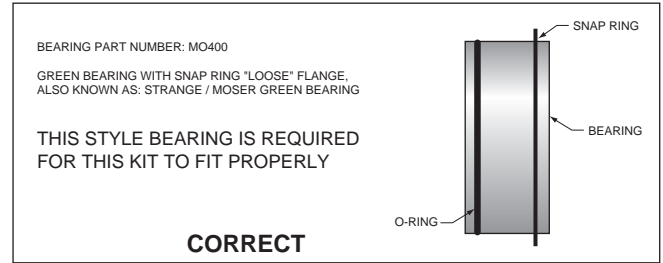
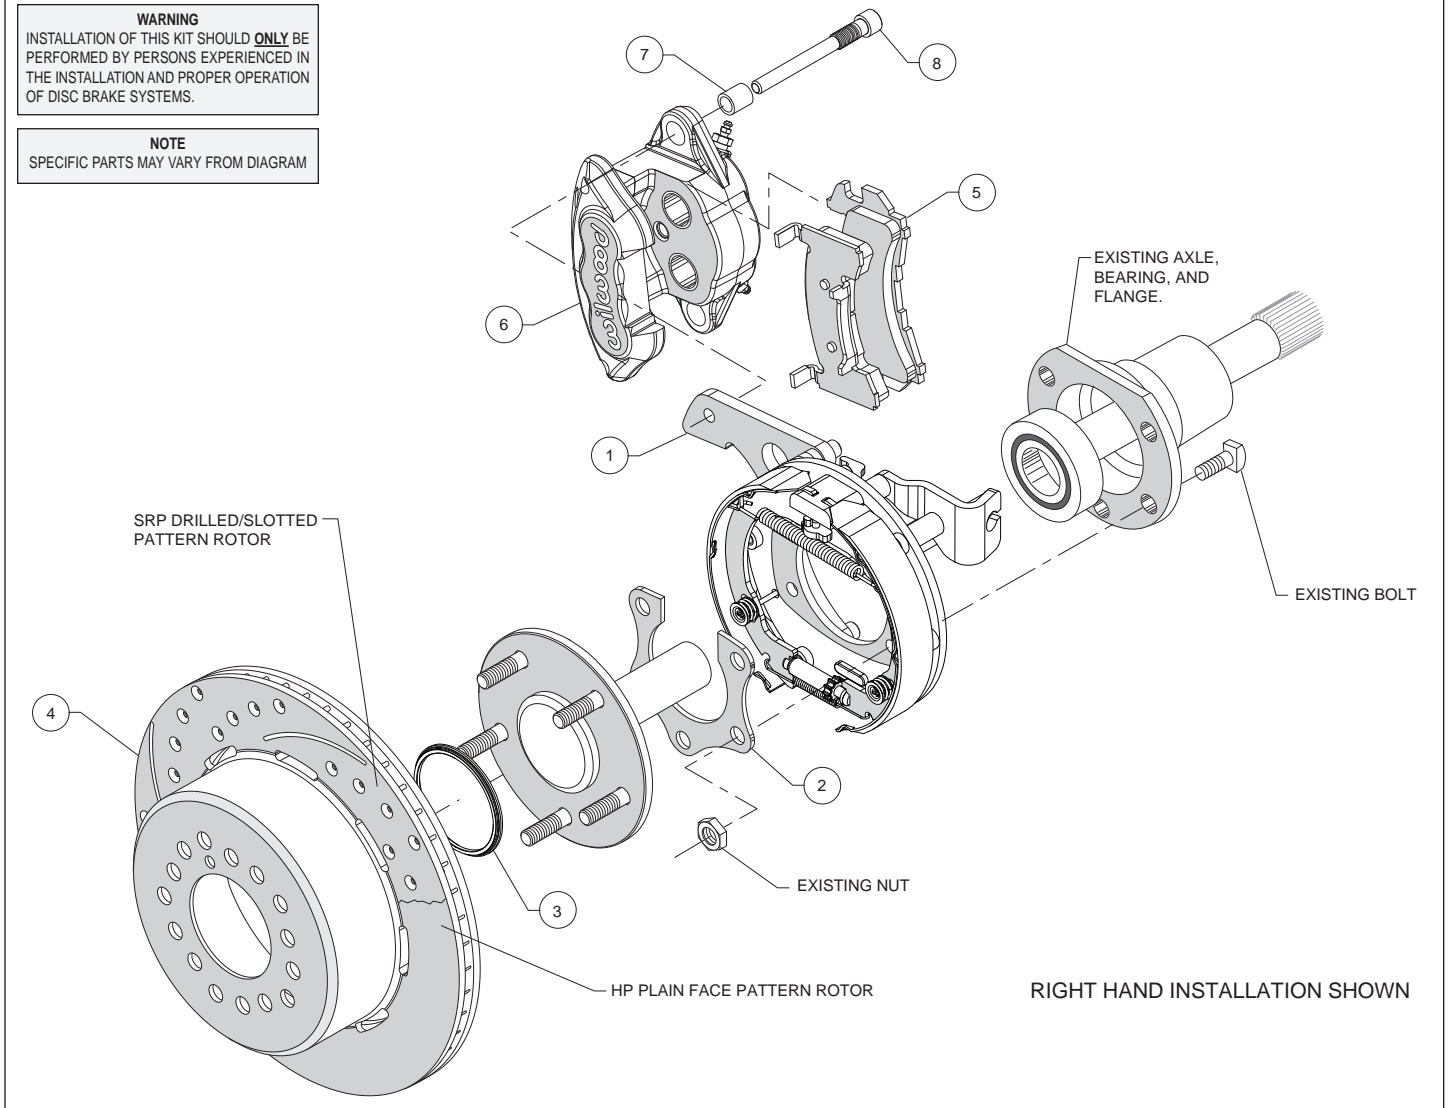

Figure 2. Loose Fit Bearing Configuration
Figure 3. Typical Installation Configuration
Assembly Instructions (numbers in parenthesis refer to the parts list, and Figure 3 on the preceding pages): **CAUTION:** All mounting bolts must fully engage threaded holes.
• Determine that the appropriate snap ring style green bearing has been installed on the axle, as shown in Figure 2. Temporarily remove snap ring from bearing. Orient the bracket assembly (1) as shown in Figure 3 and Photo 1 and slide it onto the axle and over the bearing. Reinstall snap ring on bearing. Insert the axle and bracket into the axle housing. Ensure that the bracket assembly backing plate fits flush against the axle housing flange.
• Install the bearing retainer (2) with the opening pointing upward and the bearing relief step facing inward (toward the bearing), as shown in Figures 3 and 6. Secure retainer and bracket assembly to the axle housing flange using the Original Equipment Manufacturer (OEM) bolts and nuts, Figure 3. Apply red *Loctite*® 271 to the OEM bolt threads and torque to OEM specifications.
• Slide the rotor registration adapter (3) onto the axle register on the axle flange with the smaller O.D. facing toward the rotor/hat (4), Photo 2. Align the correct hole pattern in the rotor/hat with the stud pattern on the axle flange and slide into place, Figure 3 and Photo 3. **NOTE:** The rotor/hat must fit flush against the axle flange or excessive rotor run out may result. Install three lug nuts (finger tight) to keep the rotor/hat assembly in place while continuing with the installation. **NOTE:** Some OEM and after market axles come with stud sizes larger than 0.50" diameter. Verify stud size and have a qualified machine shop drill the bolt circle of the hat/rotor to the correct stud size, if necessary.
• Install the disc brake pads (5) into the caliper (6) with the friction material facing the rotor, as shown in Figure 3 and Photo 4.
• Install sleeves (7) onto slide pin bolts (8). Apply white lithium grease (available from your local auto parts store) to the slide pins/sleeves, as shown in Photo 5. **Do not apply to threads.** Mount the caliper (6) onto the mounting bracket (1) using slide pin bolts, as shown in Figure 3. Torque to 35 ft-lbs.